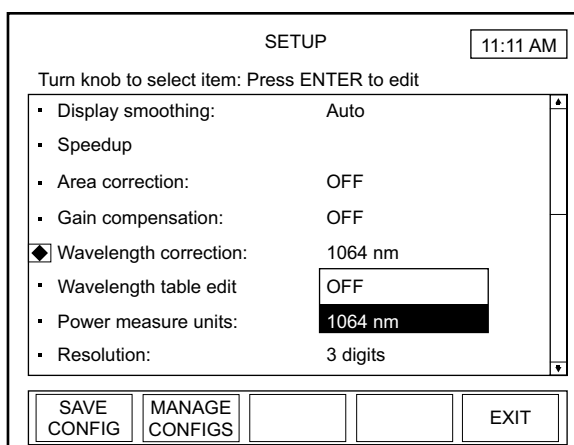

Figure 4-44. SETUP: Wavelength Correction
2. Press the ENTER/SET button to display a dropdown list of available wavelengths (similar to the list shown in Figure 4-44).